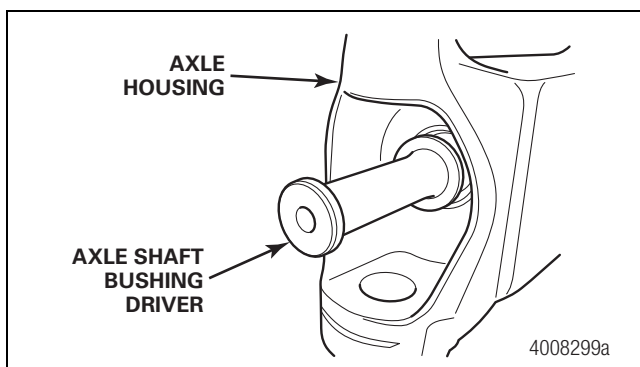

Figure 9.1
1. If removed, use a driver and hammer to install the axle shaft bushing into the housing. Figure 9.1.